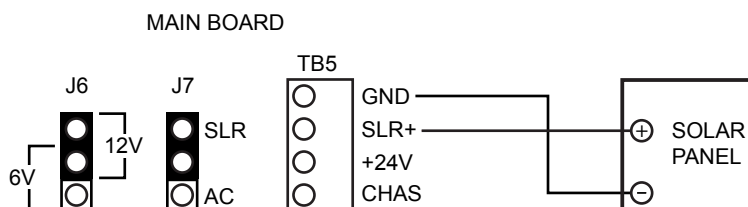

Figure 3.8—Solar cable connections to CS60 main board
1. Connect the solar panel cable to terminal block TB5 on the CS60 main board as shown in Figure 3.8.